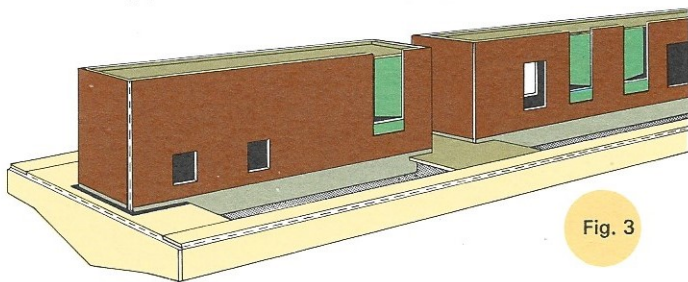

Fig. 3
3. Place the AWNING upside down and attach the two WAITING ROOMS, the white arrows on their ceilings pointing outwards (Fig. 3).